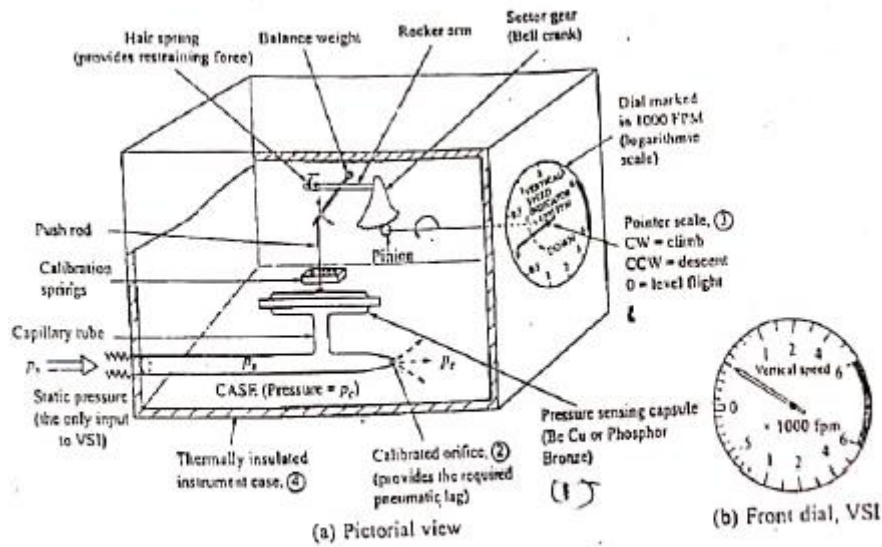

Fig. 3.21 Vertical speed indicator.
A pictorial view of VSI is shown in Figure 3.21(a).
VSI primarily comprises three main parts (Figure 3.21(a)):
1. Pressure-sensing capsule (1)
2. Metered orifice (2)
3. Pointer and scale (3)
The entire instrument case (4) is sealed except for a hole to receive  $P_s$  (static pressure). The front-face dial, as shown in Figure 3.21(a), is in the 9 o'clock position when the aircraft is on ground or in straight and level flight.
Under the above assumptions, it can be shown that the pointer deflection  $x$  of VSI is a linear function of the pressure drop  $\Delta p$  across the orifice (Figure 3.21), which in turn is proportional to the aircraft's vertical speed.